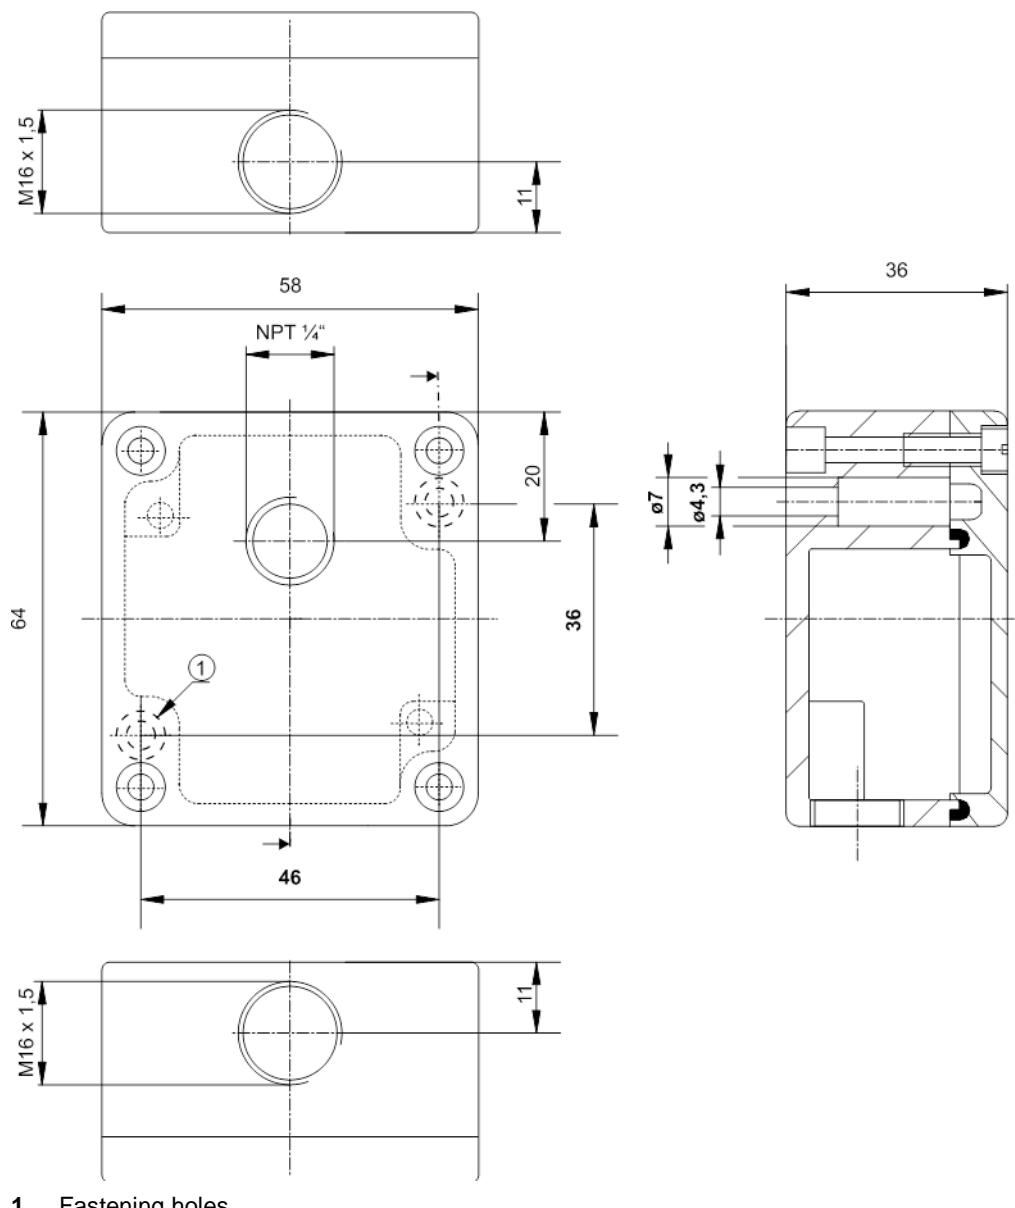

**Fig. 5-12 Components of air compensation element**
Cables on sensors with pressure measurement cell (Types V1D, V2D, V2U) must not be extended. The maximum uninterrupted cable length is 30 m. Longer cables require the installation of a junction box with pressure compensation (pressure compensation element) (see *Fig. 5-12*, Pos. 4 and 5).
4. Snap the air hose plug into the socket in the cover (*Fig. 5-12*, Pos. 6).